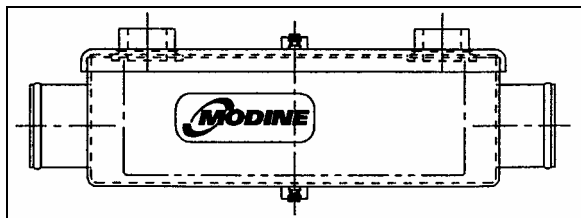

FIGURE 12: MODINE OIL COOLER
2. Disconnect the two transmission hoses from oil cooler. Cover hose ends and fittings to prevent fluid contamination (fig.12).